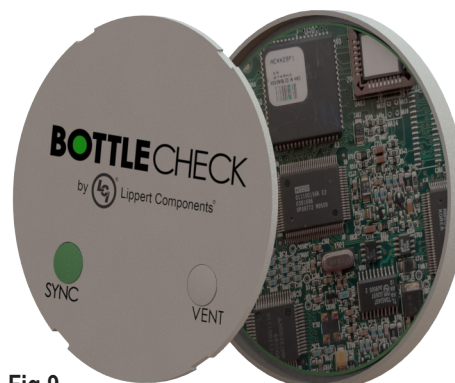

Fig.9
3. Pry outward to begin releasing the lid from the base. Continue prying at each alignment mark location until the two halves separate (Fig.9).